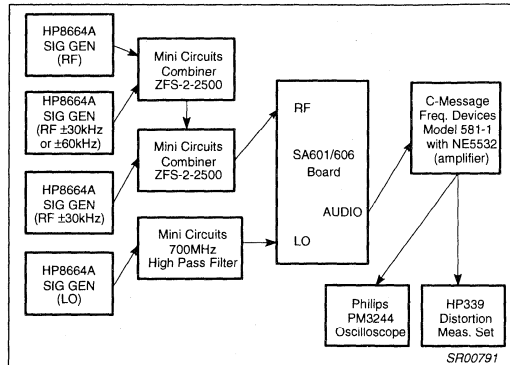

Figure 10. Test Setup for Measuring RF Sensitivity, Adjacent and Alternate Channel Rejection and Spurious Rejection
Figure 10 shows the block diagram of the test setup following the procedures outlined in the AMPS specification.
3. Check for the 700MHz high pass filter (see Figure 10).